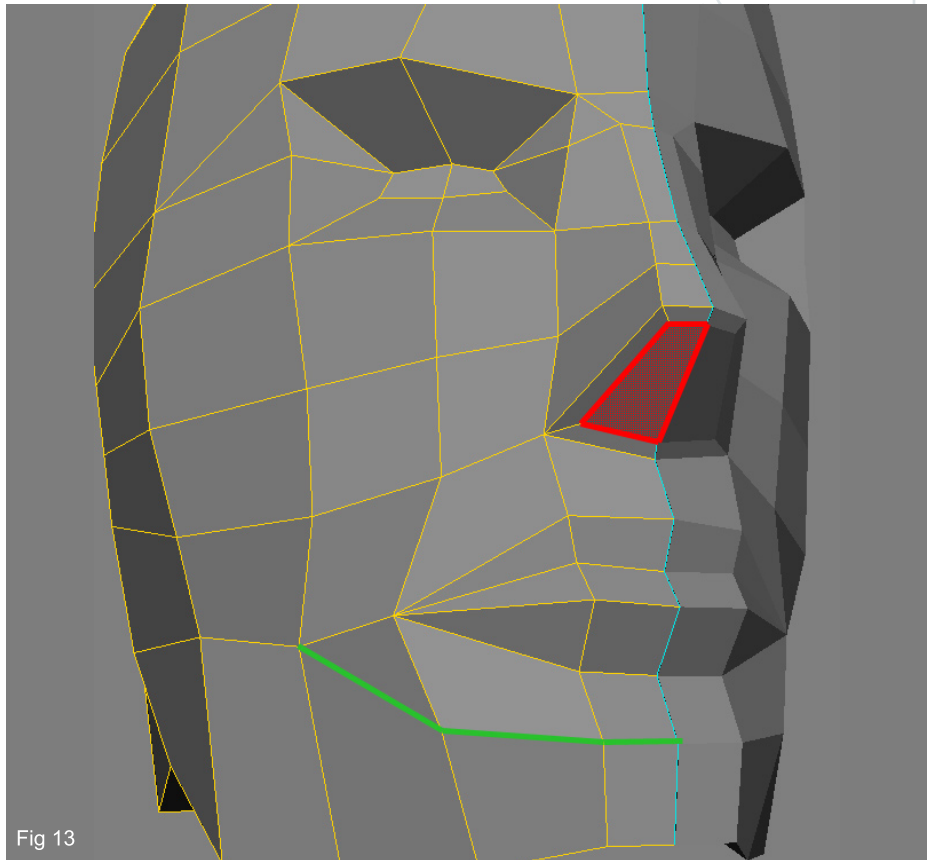

Fig 13
13. Let's improve some other features of the head. Start by Beveling the bottom polygon of the nose (marked in red in Fig13) Note that since we are working on half of the head, some unwanted polygons will be created in the middle of the face by the Bevel operator; just delete them and move the vertices so they match together in the middle. Also, add some more cuts (marked in green in Fig13) in the chin area and reshape the mesh.